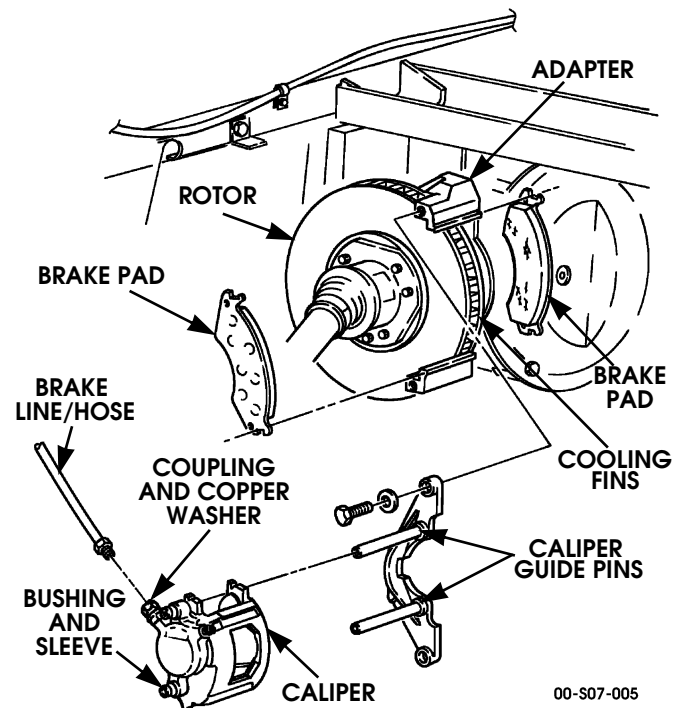

Figure 7-3: Brake Caliper and Brake Pads
3. Check brake calipers for binding as a result of corrosion or dirt. Check for seized or binding brake caliper pistons. Repair any binding or seized caliper pistons. Check brake rotors for free movement. If rotors do not move freely, remove calipers and clean caliper guide pins (Figure 7-3).